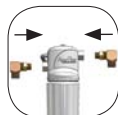

fig. 9
3. Thread tape and attach these fittings to both the inlet and outlet of the filter head (1) (ref fig 9).